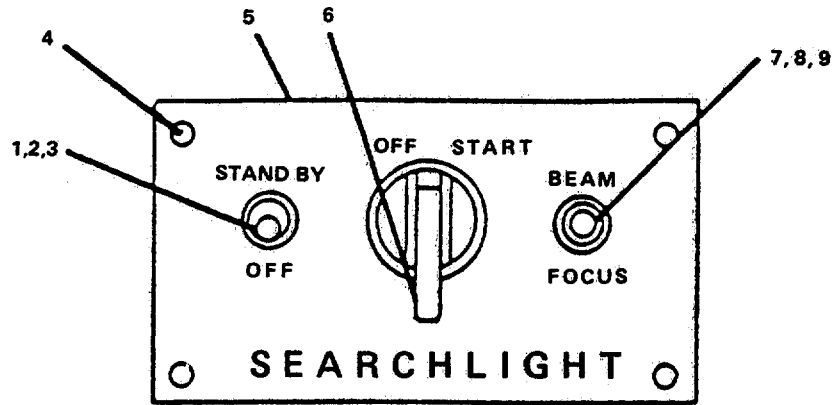

FIGURE 3-54. Searchlight Control Station.
- j. Install angle drive unit (21).
- k. Install setscrew (18).
- l. Install socket capscrew (13).
- m. Install cover (16).
- n. Install lockwasher (15) and machine screw (14).
- o. Install bearing (7) and setscrew (8).
- p. Install lever shaft (22) and locknut (6).
- q. Install handle (2) and hexagon capscrew (5).
**3-53. Replace/Repair Searchlight Control Station. (Figure 3-54)**